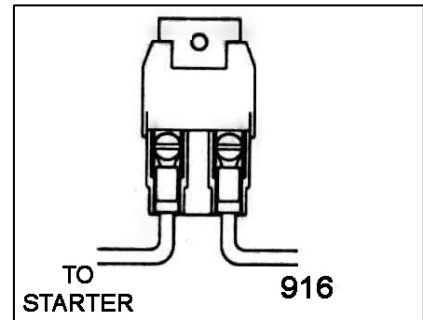

Figure 8-3 Maxi Fuse
8.3.1 With crimping tool, attach Maxi Fuse (**Figure 8-3**) onto end of ENGINE SECTION (single) 10 ga. wire #916 (red) AFTER having routed wire from the Fuse Panel to the Starter Solenoid. This serves as a fuse to protect the entire harness. DO NOT OMIT IT!